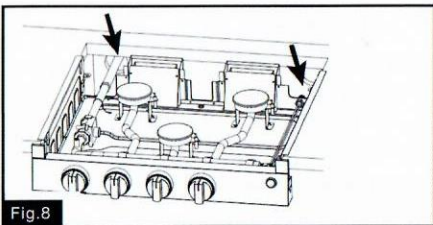

Fig.8
4. Connect a propane supply line to the in the upper left rear corner of the cabinet. Connect a positive 12V power supply wire and a 12V ground wire to the appliance in the upper right rear corner of the cabinet. (Figure 8)